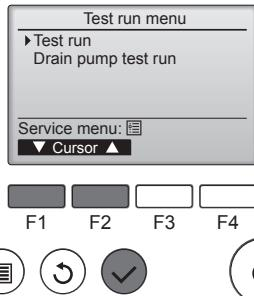

Fig. 8-2
- Select "Test run" from the Test run menu, and press the [SELECT] button. (Fig. 8-2)